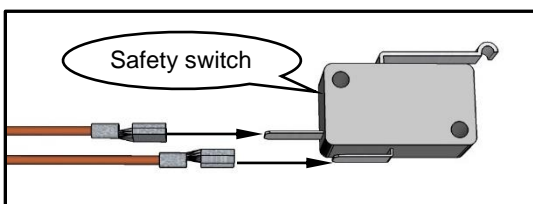

Figure 30
- 6** Connect “red” and “black” wires to door safety switch using the provided spade quick connectors. It does not matter which terminal the “red” and “black” wires are connected to. **(see Figure 30)**